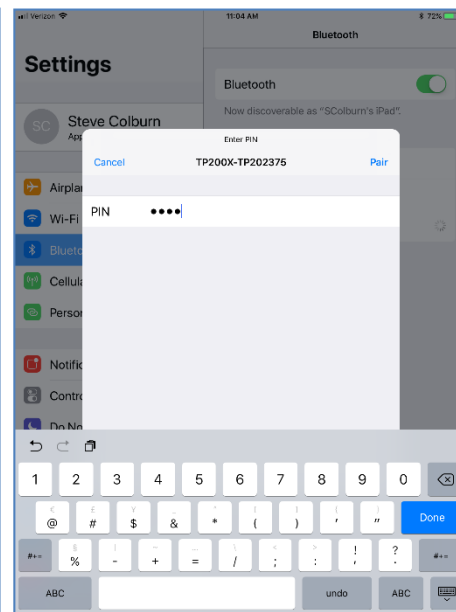

Figure 2
2. On the device, turn Bluetooth On and discover the TruPulse (Figure 2)